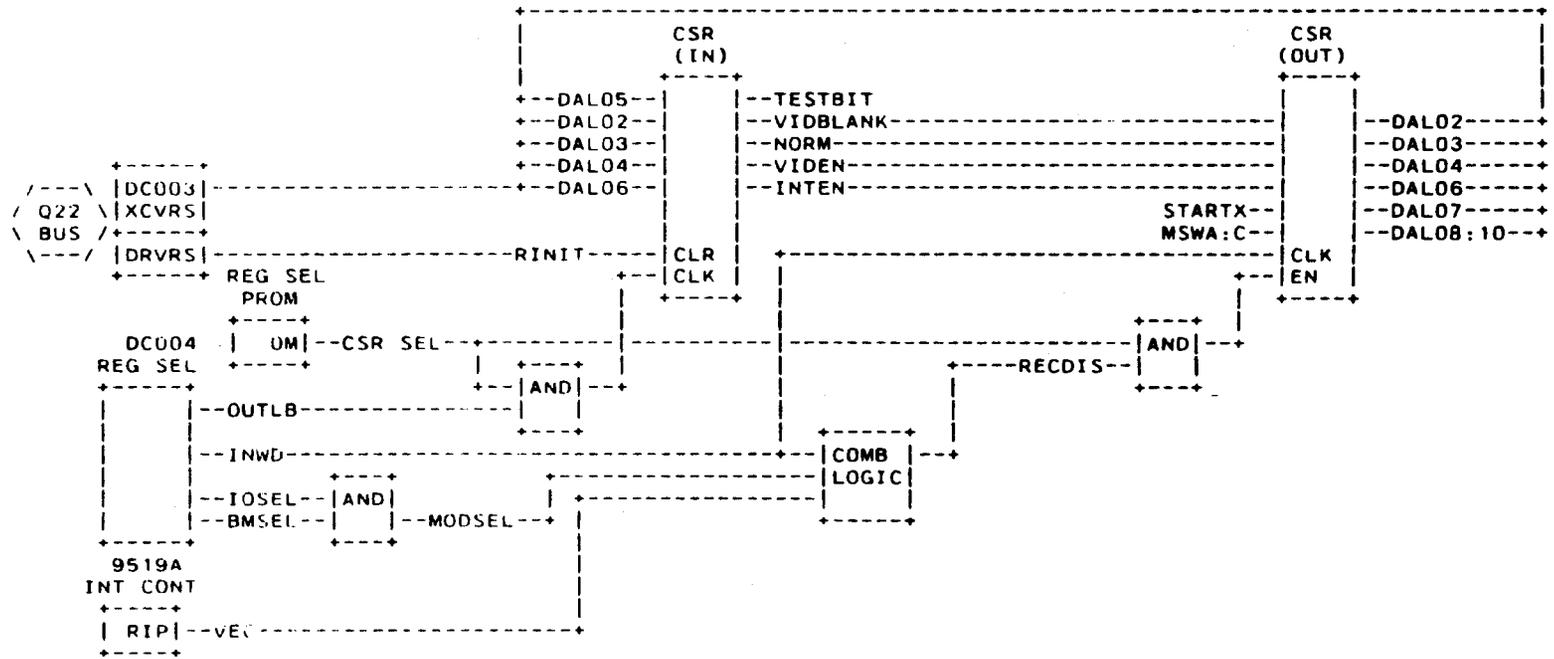

Figure 3-5: CSR Read/Write
3.3.2.1 CSR - Figure 3-5 shows the read and write paths for the CSR. Note that the CSR comprises separate input and output registers (see Table 4-2 for bit descriptions). The input register data comes from BDAL<06:02>. The CSR output register returns CSR bit status on BDAL<10:06,04:02>.